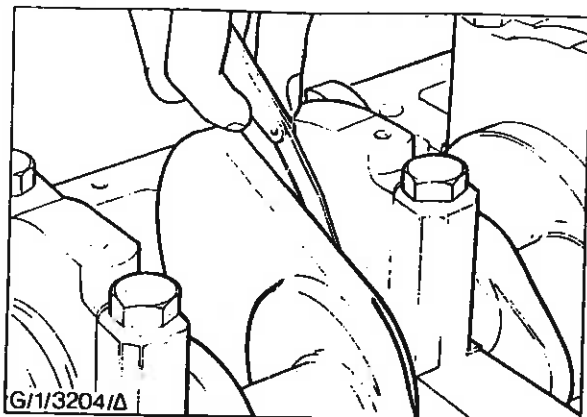

Fig. 50 - Measuring Crankshaft End-Float
23. Check the crankshaft end float. Lever the crankshaft forward to take up end float in one direction, and insert feeler blades between the crankshaft thrust washer and the crankshaft to check that the end float is within the specified limits - see Fig. 50.